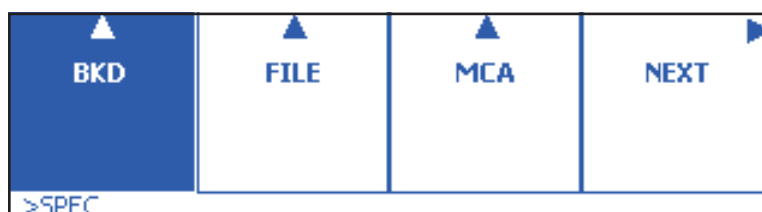

Figure 33 The Spectroscopy Menu
- Select the **SPEC** button to see its next menu level. Figure 33 shows that each of the first three menu buttons has another menu level.